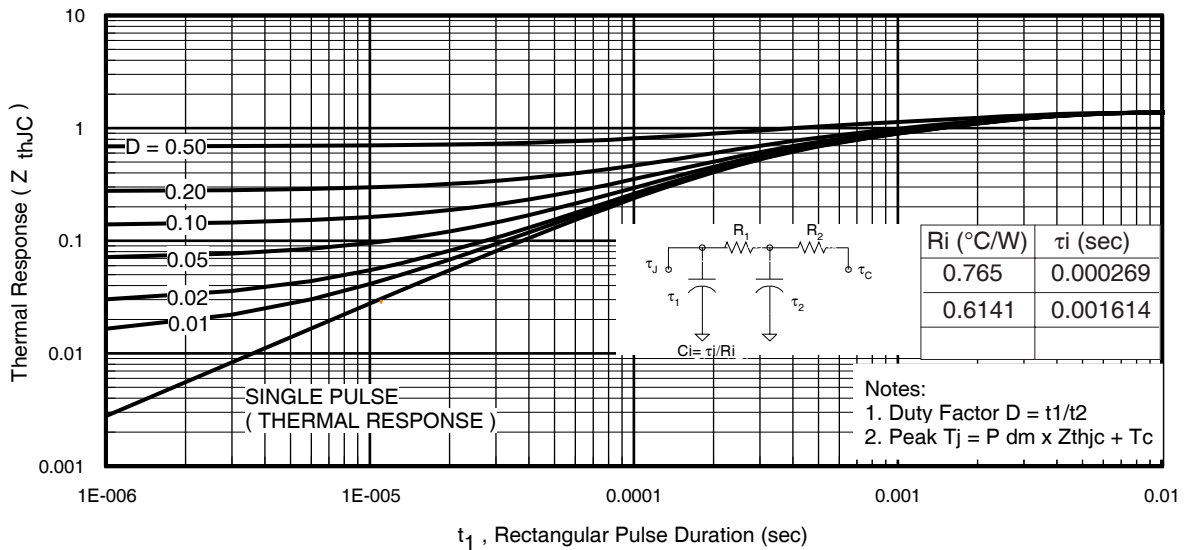
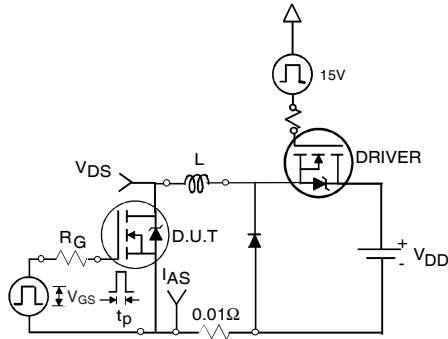

Fig 11. Maximum Effective Transient Thermal Impedance, Junction-to-Case
Fig 12a. Unclamped Inductive Test Circuit
3. Equation below based on circuit and waveforms shown in Figures 12a, 12b.
$Z_{thJC}(D, t_{av})$ = Transient thermal resistance, see figure 11)
- ① Repetitive rating; pulse width limited by max. junction temperature. (See fig. 11).
- ② Limited by T_{Jmax} , starting $T_J = 25^\circ\text{C}$, $L = 0.089\text{mH}$, $R_G = 25\Omega$, $I_{AS} = 36\text{A}$, $V_{GS} = 10\text{V}$. Part not recommended for use above this value.
- ③ Pulse width $\leq 1.0\text{ms}$; duty cycle $\leq 2\%$.
- ④ C_{oss} eff. is a fixed capacitance that gives the same charging time as C_{oss} while V_{DS} is rising from 0 to 80% V_{DSS} .
- ⑤ Limited by T_{Jmax} , see Fig.12a, 12b, 15, 16 for typical repetitive avalanche performance.
- ⑥ This value determined from sample failure population. 100% tested to this value in production.
- ⑦ When mounted on 1" square PCB (FR-4 or G-10 Material). For recommended footprint and soldering techniques refer to application note #AN-994
- ⑧ R_θ is measured at T_J approximately 90°C